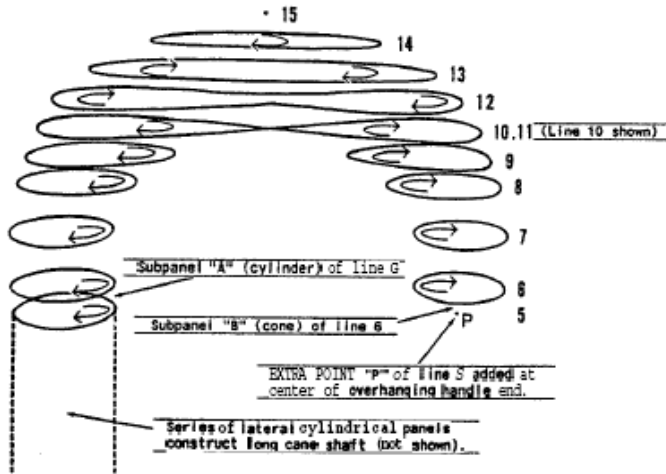
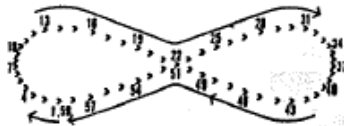

fig. 55
fig. 57 -- line 11
Consider a model of a standing cane (see fig. 55). The long cane shaft is constructed of 4 panels (not shown in the illustration). Line 5 is the HIGH LINE of the fourth panel. At line 5, an EXTRA POINT is added (Pt. P) that will be used by the next panel to initiate construction upward of a new structure, the overhanging handle. Line 6 constructs both the cone-shaped under-surface sub panel of the overhanging handle-end (sub panel B) and sub panel A of the shaft.
Read the steps below while referring to fig. 55.
1. Plot a 1 -point BASE LINE and then construct a circular undersurface panel in a clockwise direction at zero elevation to establish the underside of the shaft (Line 2 - not shown in fig. 55).
2. Construct a series of cylindrical panels to form the long cane shaft. After constructing the last panel of the series (here, Line 5, fig. 55) around the cane shaft, type "2" (Zero) to load "0" into the PAINT NUMBER register and add an EXTRA POINT (pt. P) to line 5 at the location where the center of the overhanging handle will begin.
The next panel (Line 6, fig. 55) will start construction of the overhanging handle. Only a small value should be added to Z OF THIS LINE for this panel. The height of the panel should be quite small, because this panel will be used to construct the cone-shaped sub panel that describes the bottom-most end of the handle.
Line 11 is an INSERT LINE used to rearrange the plot order of line 10 so that the next higher panel can be constructed in one continuous loop (no subpanels - see line 12, fig. 55).
B. Use the "Z" (Zero) key to immediately load "0" in PAINT NUMBER. Use the "<" (Back/LOW LINE) and ">" (Advance/LOW LINE) keys, along with the "." (Plot) key, to re-plot the points of Line 10 so that the order in which the points are plotted are rearranged from the double loop of Line 10 (figs. 55 and 56) to the single loop of Line 11 (fig. 57). Save this INSERT LINE to disk.
The standing cane model above used an extra point (pt. P, fig. 55) to initiate a new sub panel at Line 5 and an INSERT LINE to merge